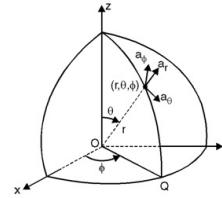

Fig. 6.1.10 : Unit vectors in spherical System
- The unit vectors in spherical system are \hat{a}_r , \hat{a}_θ and \hat{a}_ϕ . These unit vectors are perpendicular to $r = \text{constant}$, $\theta = \text{constant}$, and $\phi = \text{constant}$ surface respectively and in the increasing directions of the r , θ and ϕ respectively. In Fig. 6.1.10 only the first octant is shown for simplicity, and the unit vectors are also shown in Fig. 6.1.10.